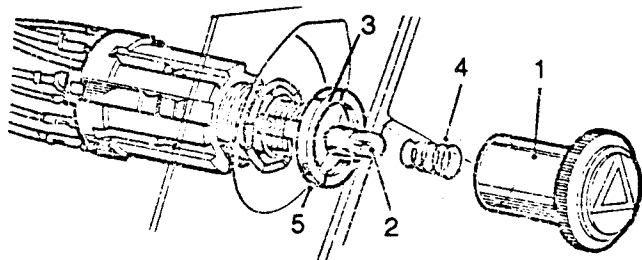

Fig O5.33
(2) Refer to Fig O5.33. Unscrew the hazard warning switch knob (1) taking care not to lose the bulb and spring (4).
(3) Pull out the warning lamp bulb (2).
(4) Remove the self tapping screws holding the panel on which the hazard warning lamp switch and test switch are mounted. Ease the panel forward away from the dash.
(5) Unscrew the locking ring (3) holding the switch to the panel and remove, together with the wave washer.
(6) Pull out the switch from the rear of the panel.
(7) Disconnect the electrical leads round the periphery of the switch.
(8) Disconnect the black centre lead.